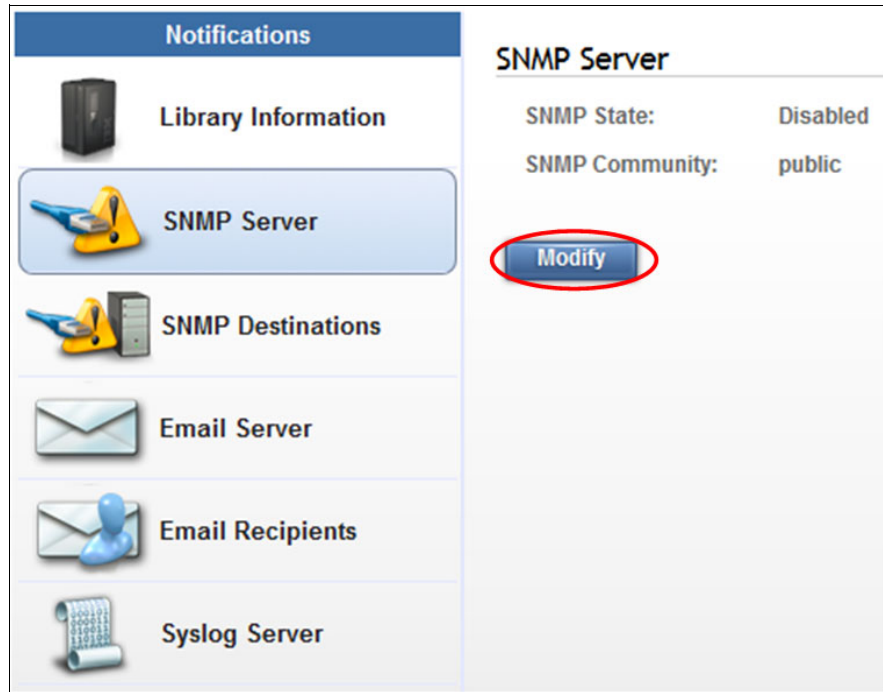
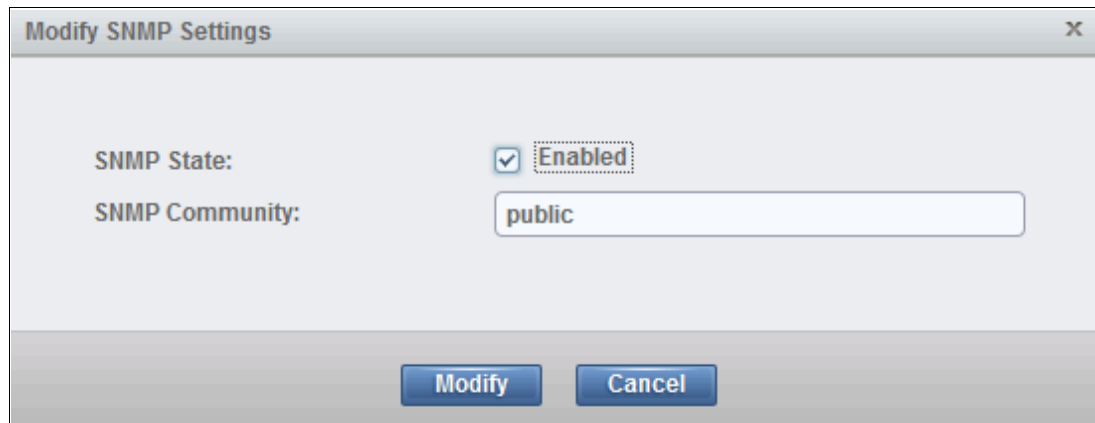

Figure 4-22 SNMP Notifications
Figure 4-23 Modify SNMP Settings window
2. Under the Notifications menu, select **SNMP Server** to display the current settings, as shown in Figure 4-22.
3. To change the setting, select **Modify**, as shown in Figure 4-22, which opens the Modify SNMP Settings window, as shown in Figure 4-23.
The *SNMP community* is the name of the class of users that can access the statistics of network-attached devices. The trap community name is sent with a trap. For information about the SNMP trap community name, see the documentation for your monitoring station. To view or change the community name that is associated with the TS4500 tape library, click **Modify** on the Modify SNMP Settings page (Figure 4-23 on page 177).